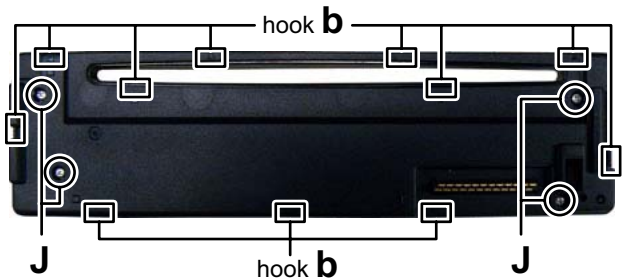

Fig.8
### 3.1.5 Removing the Switch board (See Fig.8)
- From the reverse side of the disc plate, remove the screw **D** attaching the PHOTO BOARD assembly. (See Fig.8.)